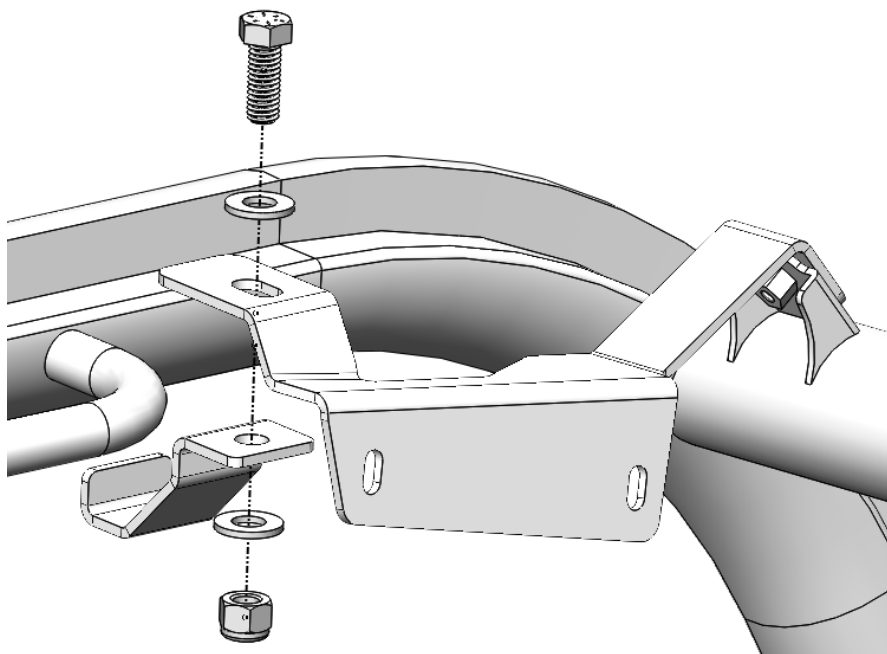

Figure 5: Mount the clamping bracket to the frame. Driver side shown. (Passenger side similar)
4. Use the supplied 3/8"-16 bolt, washers, and nyloc nut to secure the small clamping bracket on the frame as shown. Loosely secure the nut, waiting to fully tighten it until the *Audio Mini* is in the desired position. See Figure 5. Note: Driver side shown. (Passenger side similar)
8. Tighten both clamping bracket bolts to secure them to the frame and the *Audio Mini* mounting brackets. See Figure 5. Torque the bolts to 25 ft.-lbs.